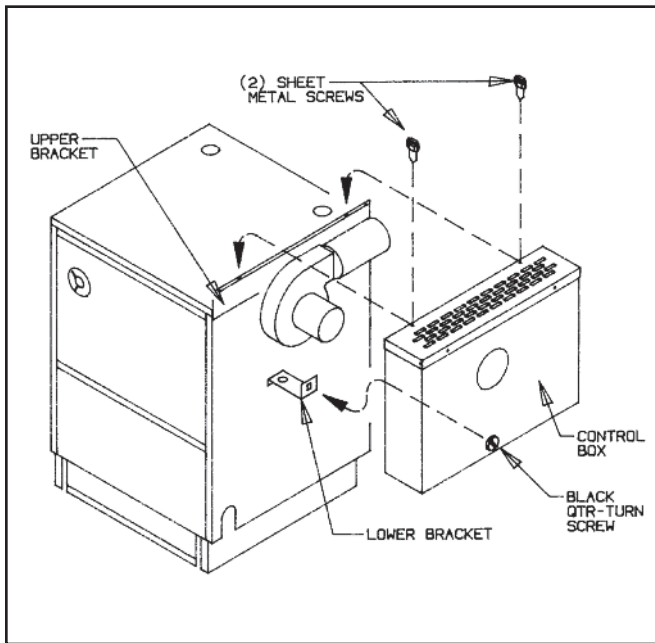

Figure 24.
Removing Control Box (cover). See Figure 24.
1. Remove control box (see instruction under "Safety Check". See Figure 24).